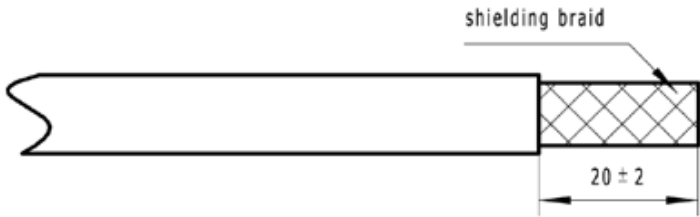

Figure 4-13 Stripping the specified length of sheath
Step 2: Strip the specified length of the sheath off the power cable, don't cut the shielding braid, as shown in Figure 4-13.